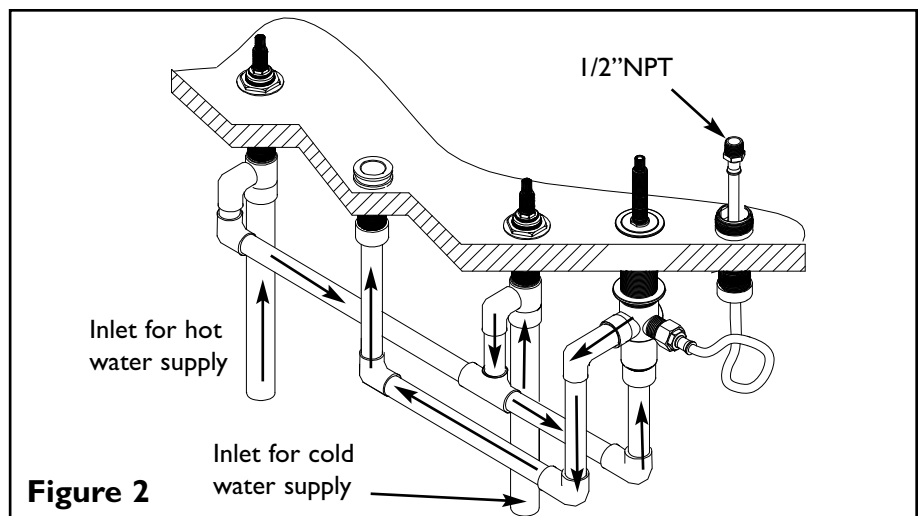

Figure 2
10. Feed braided hand shower hose through deck flange and attach one end of hose into the hand shower outlet of diverter valve. See Figure 2.
11. Attach hot/cold supply lines to appropriate valve body. See Figure 2.
13. Connect 3/4" side outlet of diverter valve to tub spout fitting as shown in Figure 2.